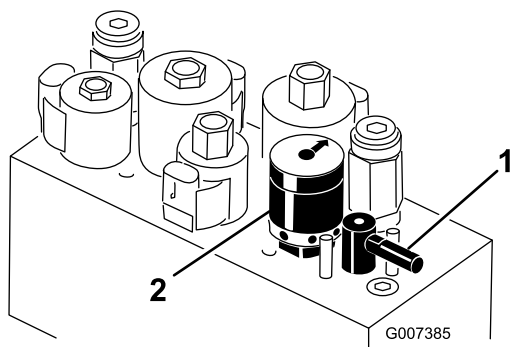

Figure 28
4. To set the reel speed, rotate the knob (Figure 28) until the indicator arrows are in line with the number designating desired setting.